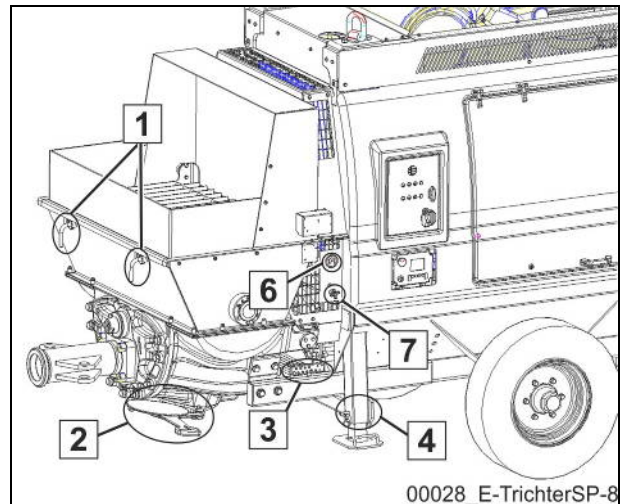

Fig.: 5
Two locking bars (1) (Fig.: 5) are used to secure the grid assembly: